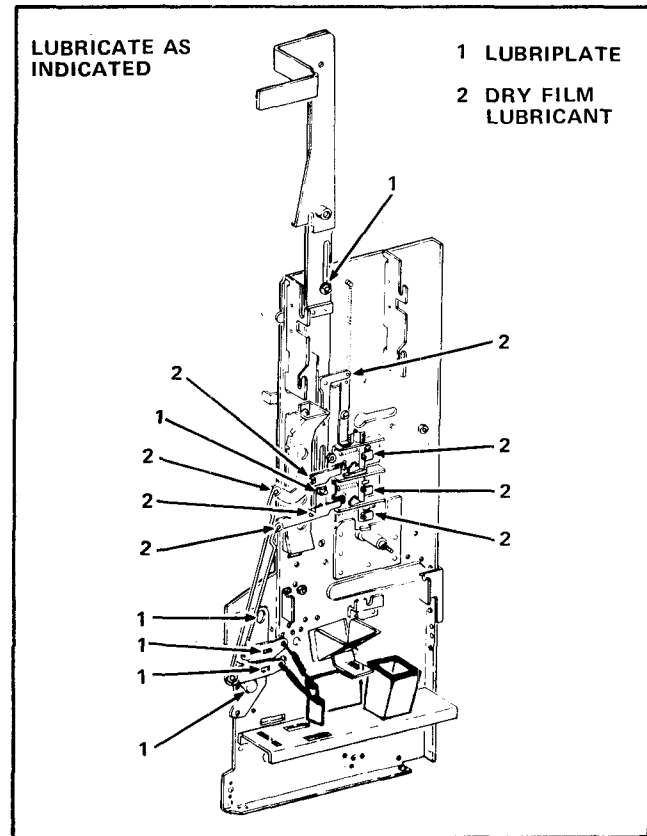

FIGURE 8-3
3. Lubricate the outside of the Right Sidewall with Lubriplate and a dry film lubricant as shown in Figure 8-3.